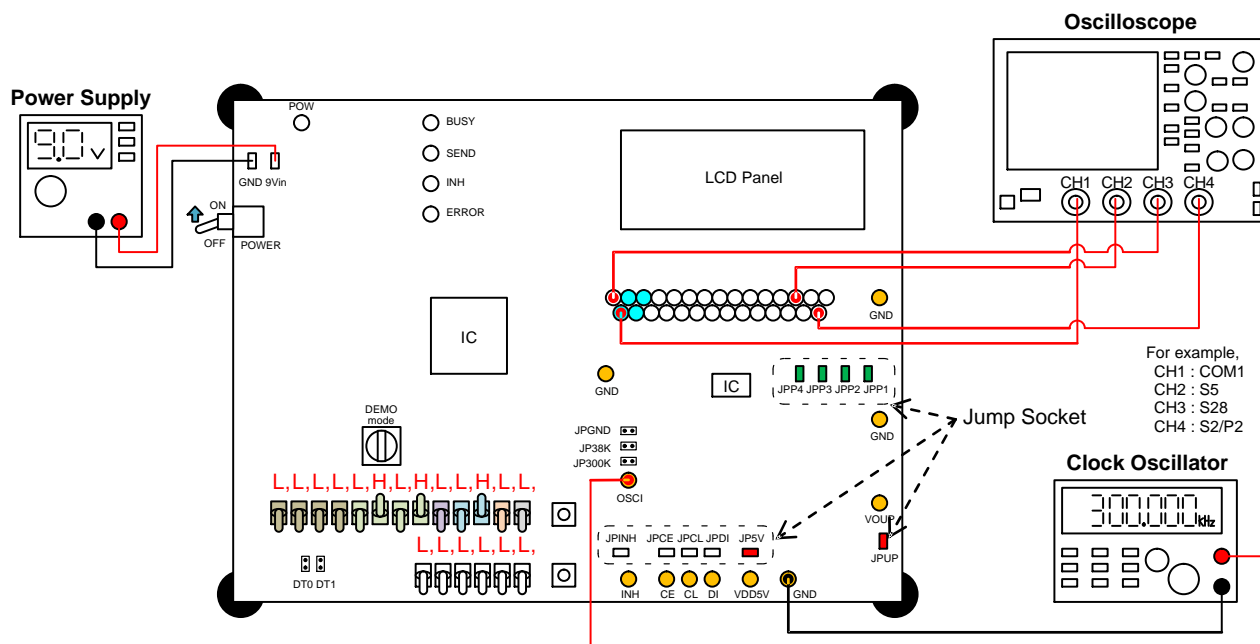

Figure 6. The Test Constitution when the LCD Display Is Driven by the External Clock Input
1. Connect the test setup as shown in Figure 6.